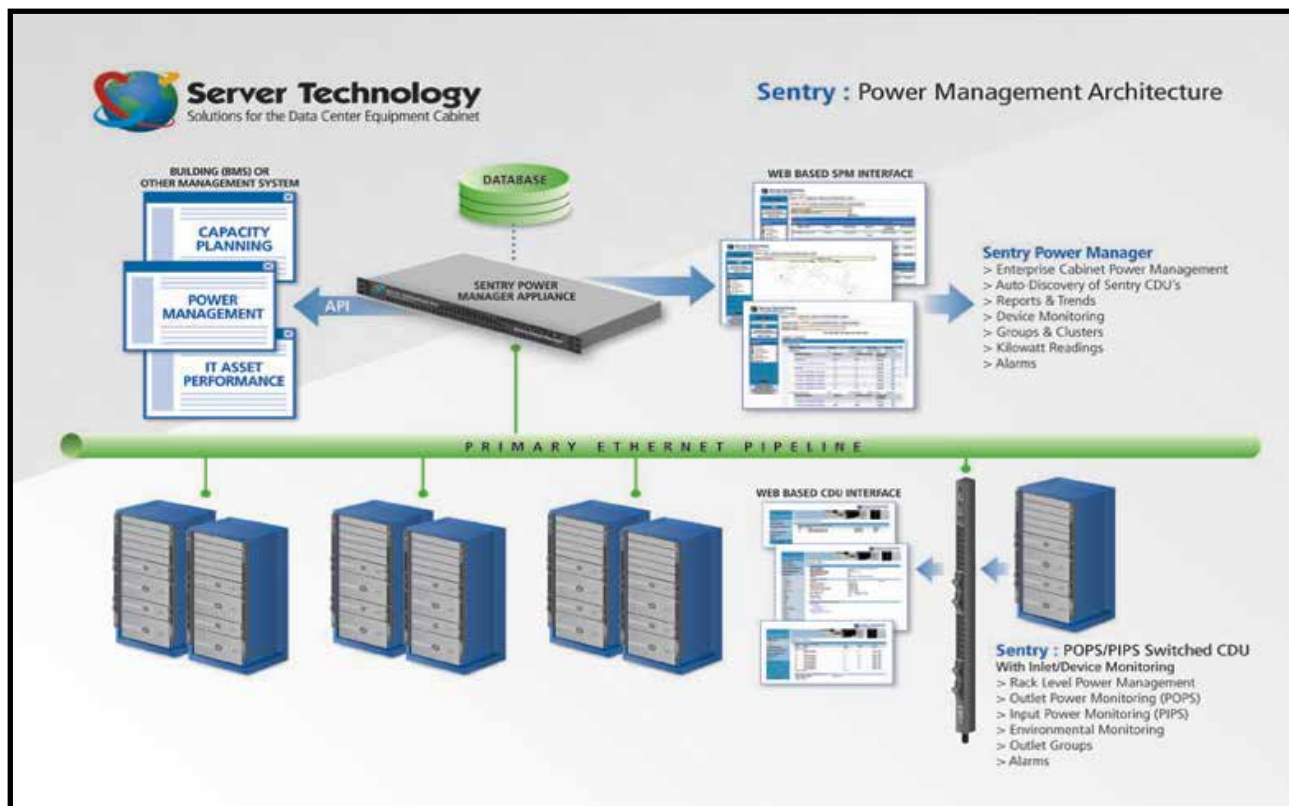

Figure 2: SPM Architecture
**Via a Spread sheet and Your Local Sales Engineer:** If the user is using our Sentry Power Manager software tool (See Figure 2) then there is a great spread sheet tool that allows the user to configure every single PDU parameter down to minute items like the outlet name. This tool has a lot of advantages as in many cases the customer is already storing PDU configuration information via a spread sheet. It is available for all versions of SPM and you can configure as many or as few items as you would like using this tool.